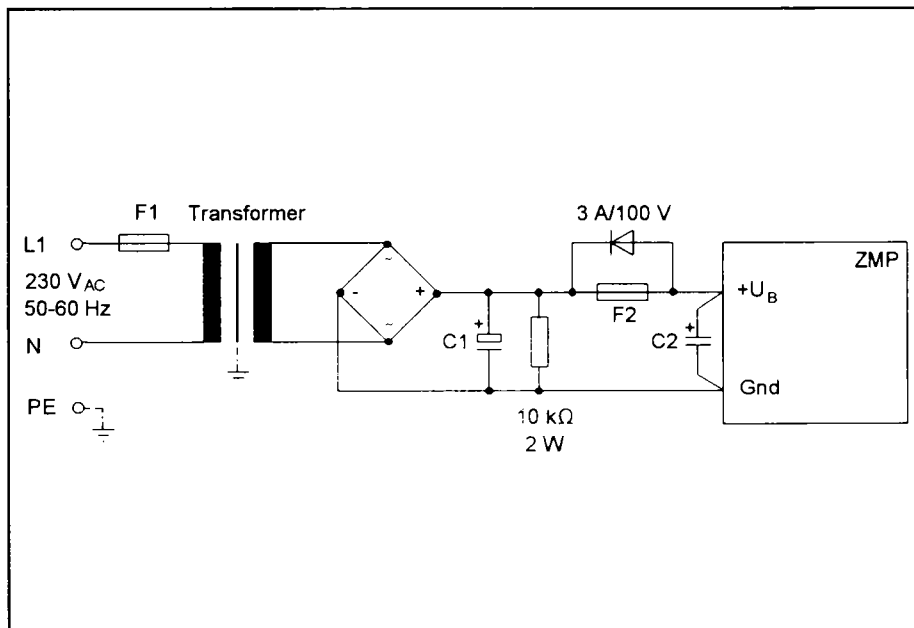

Fig. 13: Example of supply unit
4. If the supply leads between the mains and the ZMP module are longer than 500 mm, connect a capacitor (C2, approx. 47 µF/200 V - refer to figure 13) as close as possible to the connector.